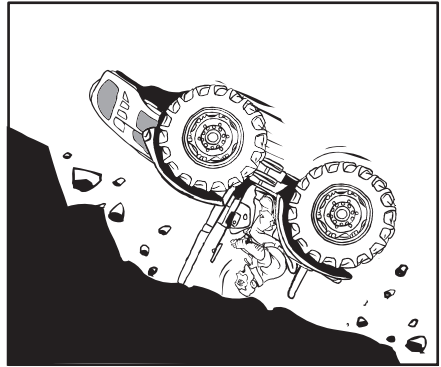

Fig. 2.14
- If operating near ditches or banks, keep the tractor behind the fracture line. Avoid ditches, embankments, banks and edges of rivers which could cave in (Fig. 2.14).